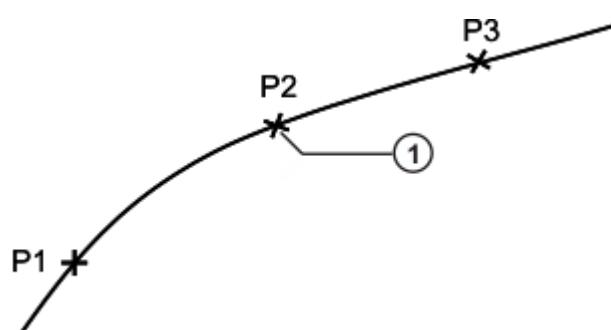

Fig. 8-6: Example motion for logic
Signal-dependent wait functions can be programmed with or without processing in the advance run. **Without advance run** means that the motion will always stop at the point and that the signal will be checked there: (1) (=> Fig. 8-6). In other words, the point cannot be approximated.